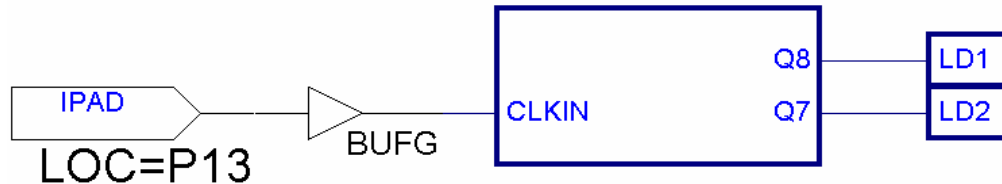

Figure 5.6: Interfacing 1&2 Hz Clock Macro for FPGA Download.
4. Interface your 1 & 2 Hz clock generating macro as shown in Figure 5.6. Note the usage of Global-Buffer instead of Input Buffer. This is a special buffer for signals that are routed throughout the chip. The Clock is one of such signals.